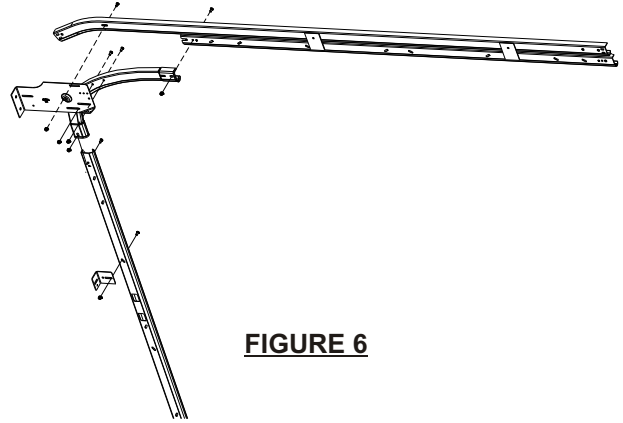

FIGURE 6
2. Secure the upper horizontal track to the headplate using a track bolt and nut from the inside of the track through the headplate. (See Figure 6)